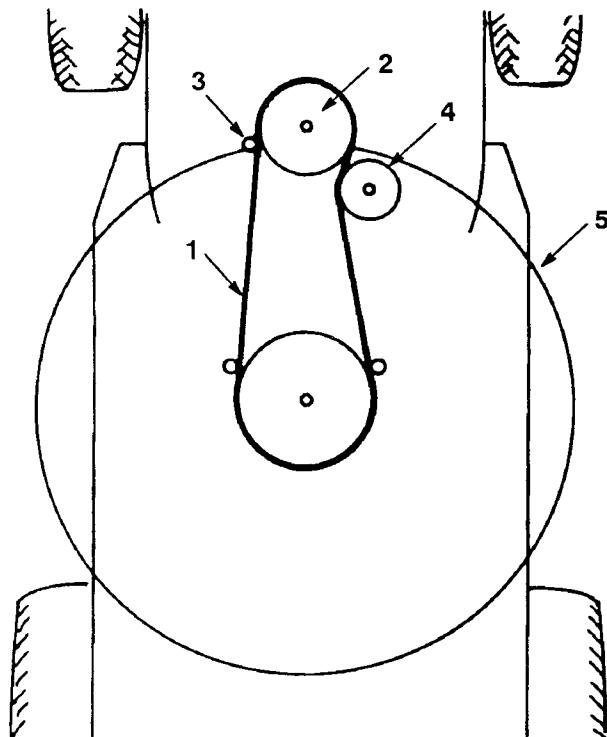

Figure 40
10. Remove the mower belt from the lower engine pulley (Fig. 40). If you are careful, you can flex the belt guide(s) just far enough away from the pulley to remove the belt. If it is too difficult to remove the belt, loosen the bolts and nuts securing the belt guides.
- Install mower belt onto the lower engine pulley (Fig. 40). If you are careful, you can flex the belt guide(s) just far enough away from the pulley to install the belt. If it is too difficult to install the belt, loosen the bolts and nuts securing the belt guides.